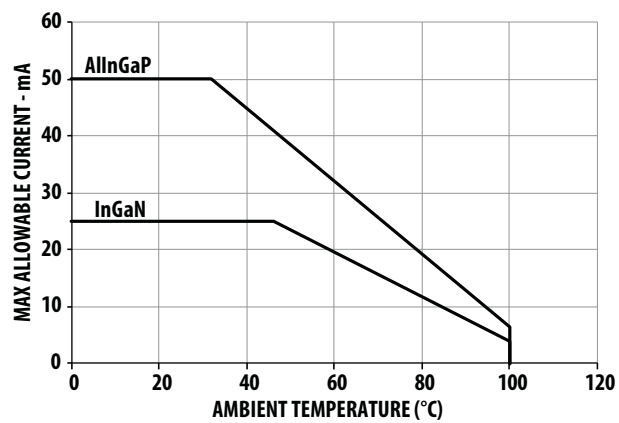
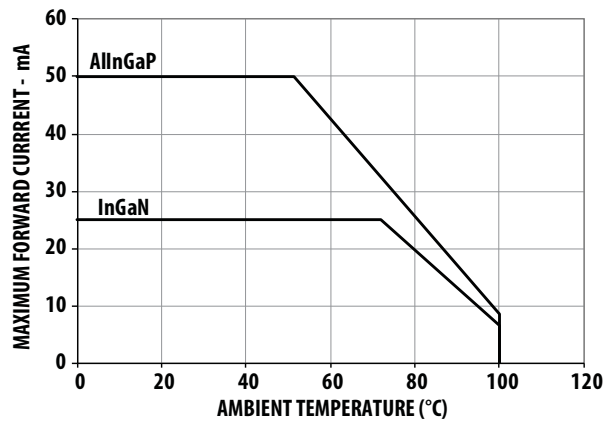

Figure 4a. Maximum forward current vs. ambient temperature. (3 chips)
Figure 4b. Maximum forward current vs. ambient temperature. (single chip)
1. Derate linearly as shown in Figure 4a & 4b
3. Refer to Figure 4a and Figure 4b for more information